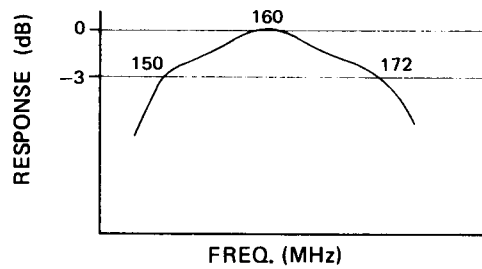

FIGURE 12.
Step 2: Adjust T8, 9, 10 and L1 for maximum output similar to the Figure 12 curve. This curve should be dropping down by about  $-3$  dB for CH 5 to 7.